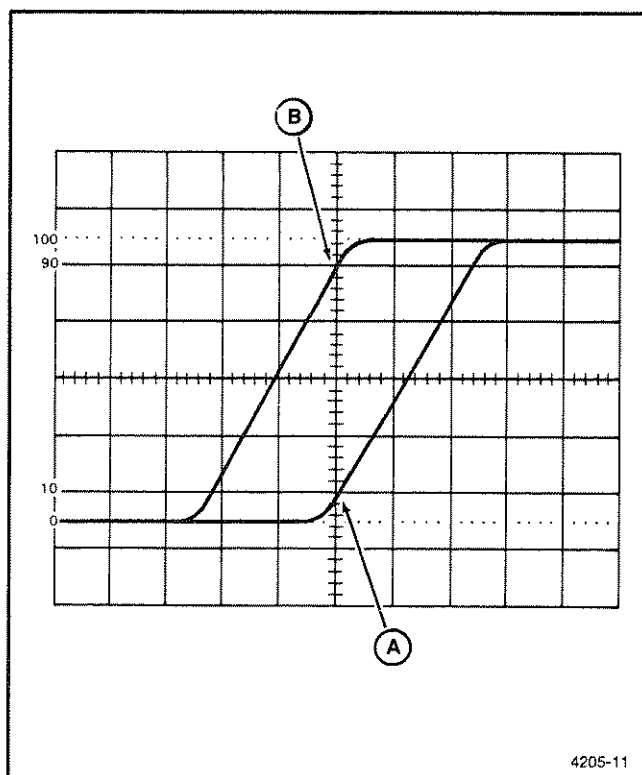

Figure 2-23. Rise time, differential time method.
7. Select the B Horizontal MODE. Adjust the B DELAY TIME POSITION control until the display intersects the 10% point at the center vertical graticule line (see Figure 2-23, Point A).
9. Adjust the B DELAY TIME POSITION control until the display intersects the 90% point at the center vertical graticule line (see Figure 2-23, Point B).